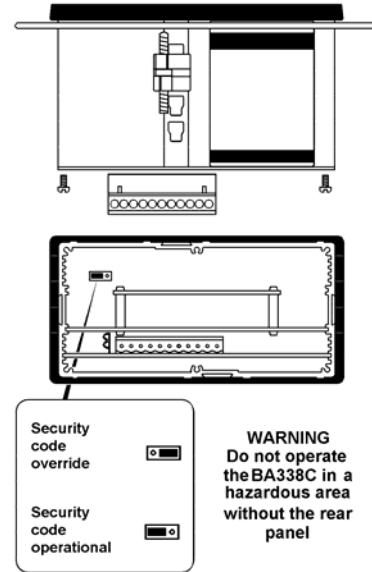

Fig 10 Location of security override link
To gain access to the security code link, remove the instrument terminal block(s) by gently pulling. Remove the five screws securing the rear panel and lift off the panel to reveal the link – see Fig 10.
- Remove the rear terminal block(s) and the rear panel as shown in Fig 10.